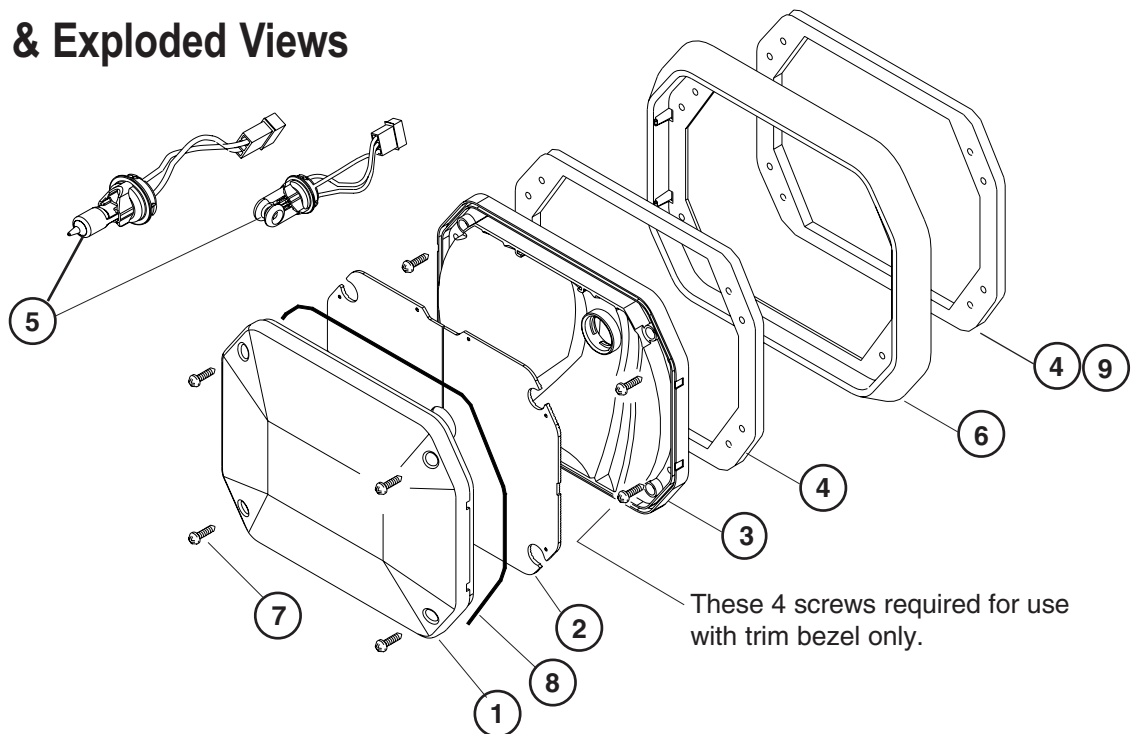

FIGURE 5
13. Verify the orientation of the reflector. Mount the bezel and reflector by installing four of the screws supplied. See Figure 5 for bezel/reflector screw location.